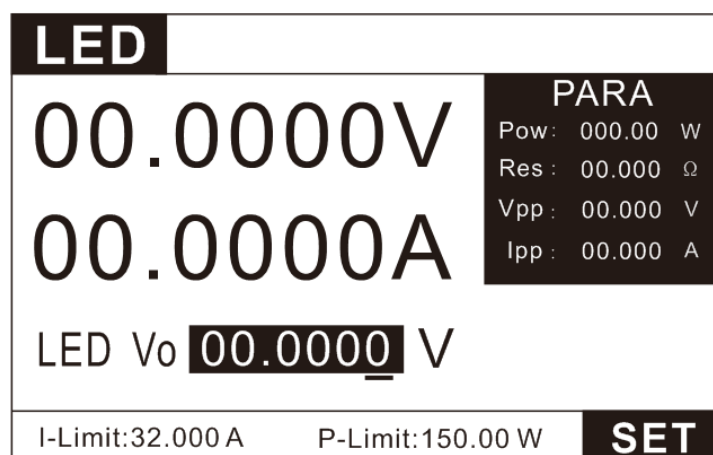

Figure 3.26 LED mode testing page
1. Press the key **MODE** to enter the mode selection page, press the up and down keys to select LED, and press the key **ENTER** to enter the LED test interface, as shown in Figure 3.26.
2. In Figure 3.26, press the key **SET** to enter the setting interface, as shown in Figure 3.25, set $V_o=34.4\text{V}$, $I_o=0.35\text{A}$, $R_f=0.173$. Then R_f is calculated as follows: